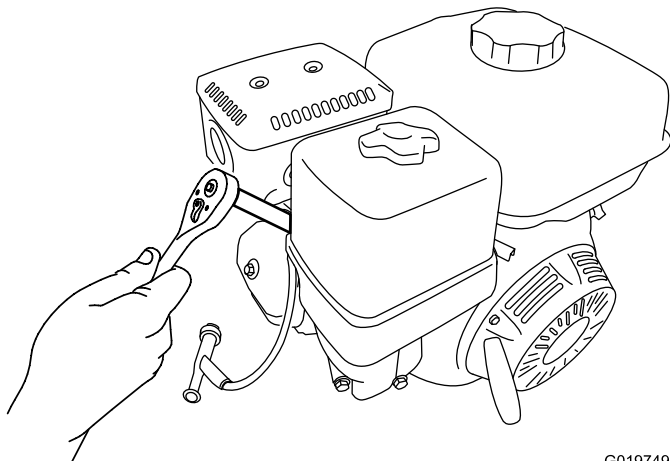

Figure 44
5. Rotate the spark plug counterclockwise using a 13/16 inch (21 mm) spark-plug wrench to remove the plug and the sealing washer (Figure 44).
2. Rotate spark plug clockwise using a 13/16 inch (21 mm) spark-plug wrench until the plug and sealing washer are seated (Figure 44).